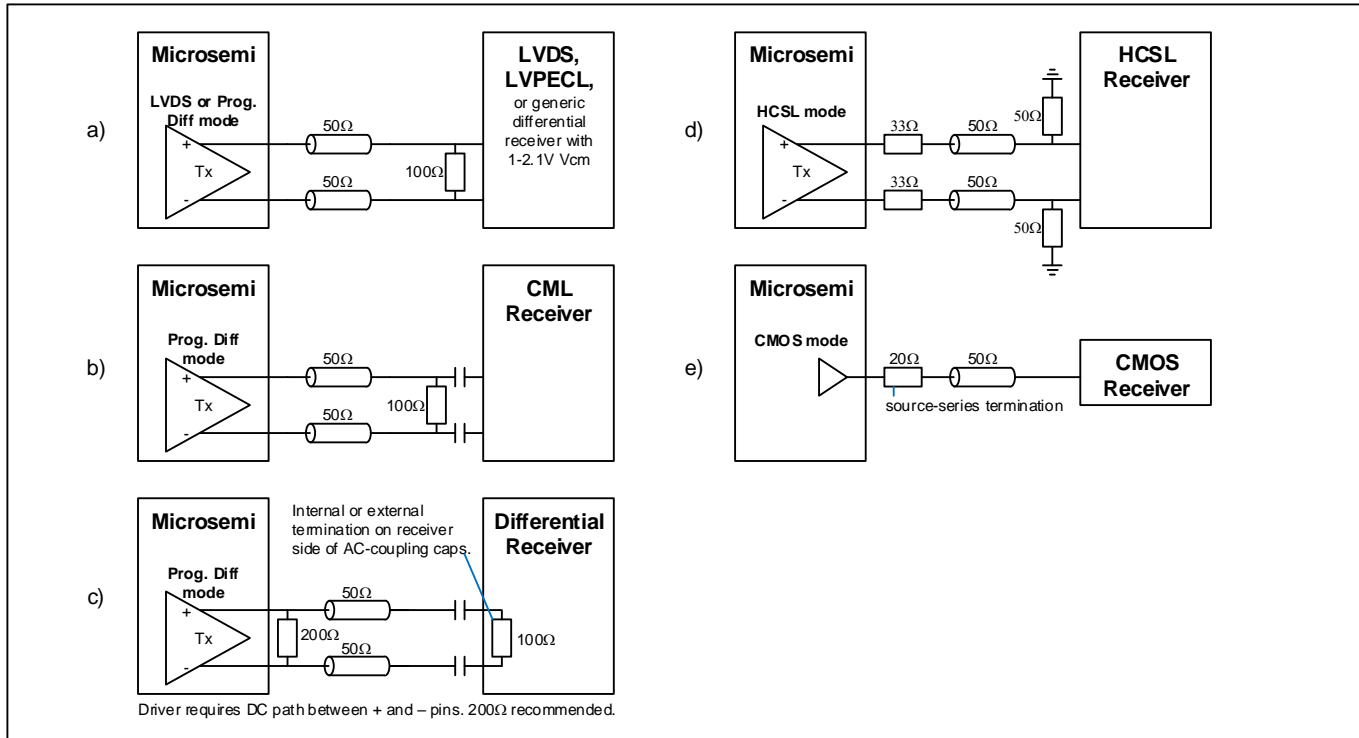

Figure 16 - Example External Components for Output Signals
**Note 1:** OCxCR2.OCSF=0001 (LVDS). Output must have 100Ω DC path between OUTxP and OUTxN to meet these  $V_{\text{OD}}$  specs. See Figure 16 parts a) and b) for examples where this DC path is a 100Ω termination resistor at the receiver
**Note 1:** OCxCR2.OCSF=0010, OCxDIFF.VCM=1100, OCxDIFF.VOD=0101. Output must have 100Ω DC path between OUTxP and OUTxN to meet these  $V_{\text{OD}}$  specs. See Figure 16 parts a) and b) for examples where this DC path is a 100Ω termination resistor at the receiver.
Figure 16 part c) covers the case where an existing receiver has AC coupling caps followed by an internal or external 100Ω termination resistor. The driver requires a DC path between its POS and NEG pins even in this case. A 200Ω resistor is recommended. Since this arrangement attenuates the signal by one third, The `OCxDIFF.VOD` field should be set 50% higher to compensate.